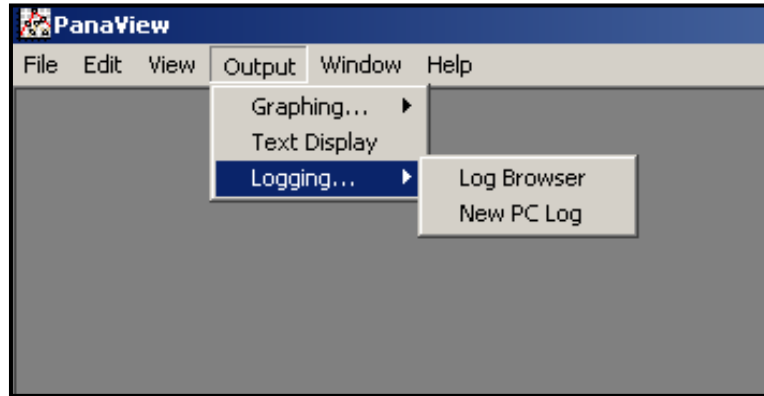

Figure 24: *Log Browser* in the *Logging* Option
1. From PanaView, click on the *Logging* option in the *Output* menu. Then click on the *Log Browser* option, as shown in Figure 24.